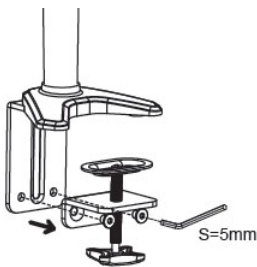

Figure 3
1. Use a 5mm Allen Key to remove the lower desk clamp from the upper desk clamp, see Figure 3.